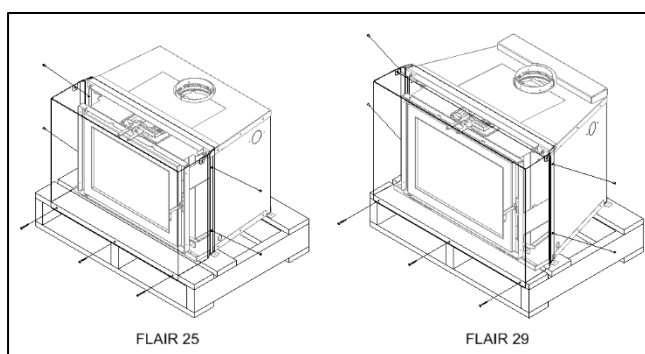

Figure 3-3: FLAIR Shipping Front Cover Removal
- a) Unfasten and remove the front shipping cover of the unit (See Figure 3-3). Recycle the cover.